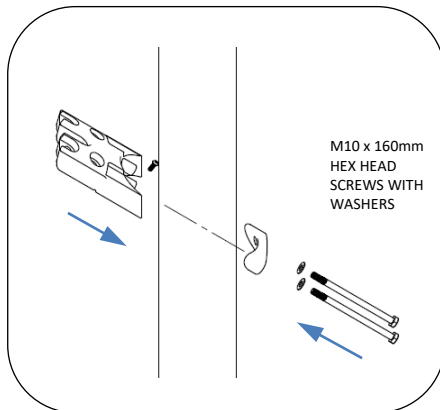

Fig. 9 – Attach bracket for intermediate mount luminaire
1. Using 17mm socket wrench, attach intermediate mount bracket to pole with (2) M10 x 160mm hex head bolts and washers. See Fig. 9.